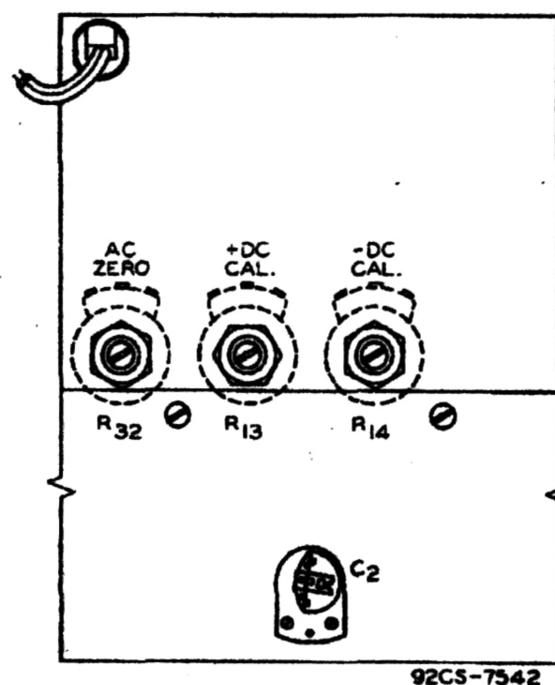

Figure 10. Calibration control locations.
7. Adjust the "+DC CAL" control (R13) to bring the pointer exactly to the 50-volt point on the scale. (Refer to Fig. 10)
4. Set the function selector on the 500-volt range and apply an accurate 200-volt, 100-kc sine-wave signal between the ground lead and tip of the WG-218 Direct Probe and Cable. Adjust C-2 located at the rear of the instrument (see Fig. 10) for a 200-volt meter reading.